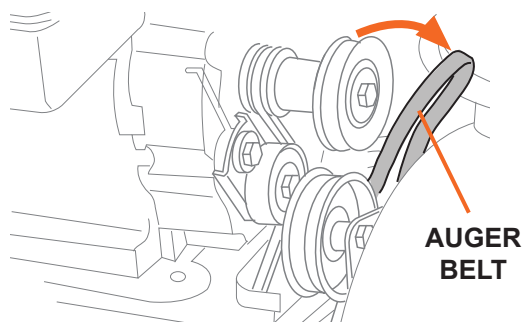

Figure 21
3. Roll the auger belt off the engine pulley (see Figure 21).